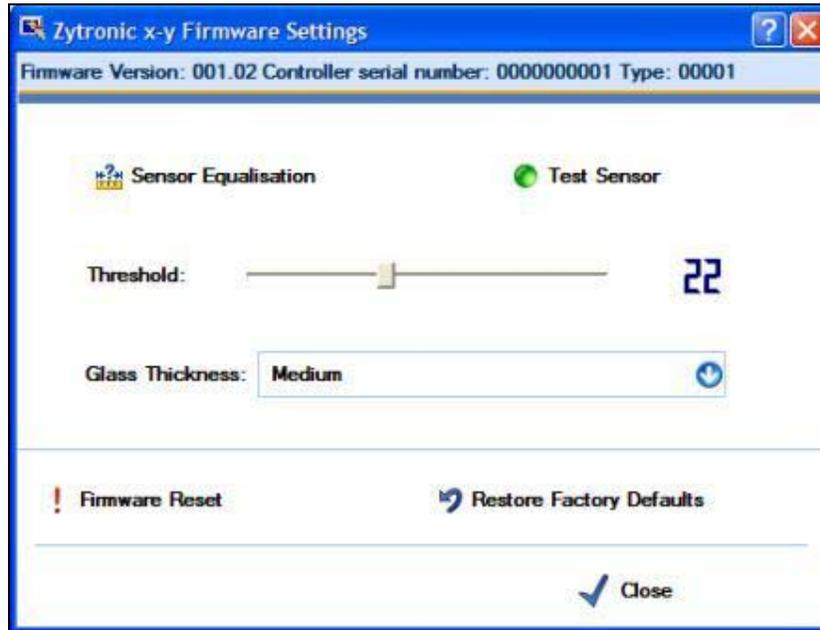

Figure 25: Controller Firmware Settings Page
- With the UPDD console open, select the **Hardware** tab, then click on the **Firmware Settings** icon. This will open the controller **Firmware Settings** page, as shown in Figure 25. The Firmware Settings page allows the user to test the sensor operation, set vital parameters such as the sensitivity of the touchscreen to an applied touch and also to specify if the touchscreen is to operate as a Direct Touch or Through Touch mode (i.e. operate through different thicknesses of glass overlays).